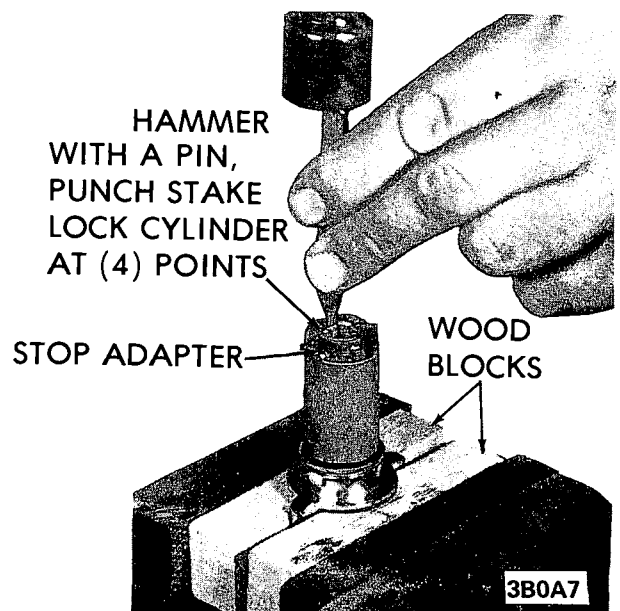

Figure OA-7 Staking Lock Cylinder to Retain Lock Adapter
5. Using a hammer and a small pin punch, stake lock cylinder at four (4) places to retain stop adapter. Do not use force when striking cylinder, as metal is soft and only a light tap with a hammer is necessary. See Figure OA-7.